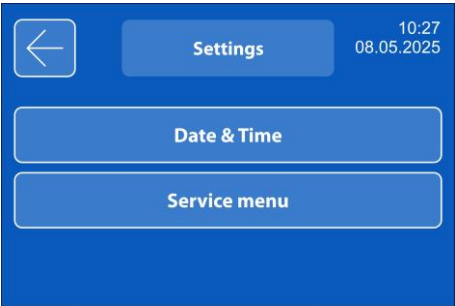

Figure 10. Settings menu
8.1.6. **Settings menu** (figure 10) can be accessed by pressing the **Settings** button (cog-wheel, figure 4). Available options are: